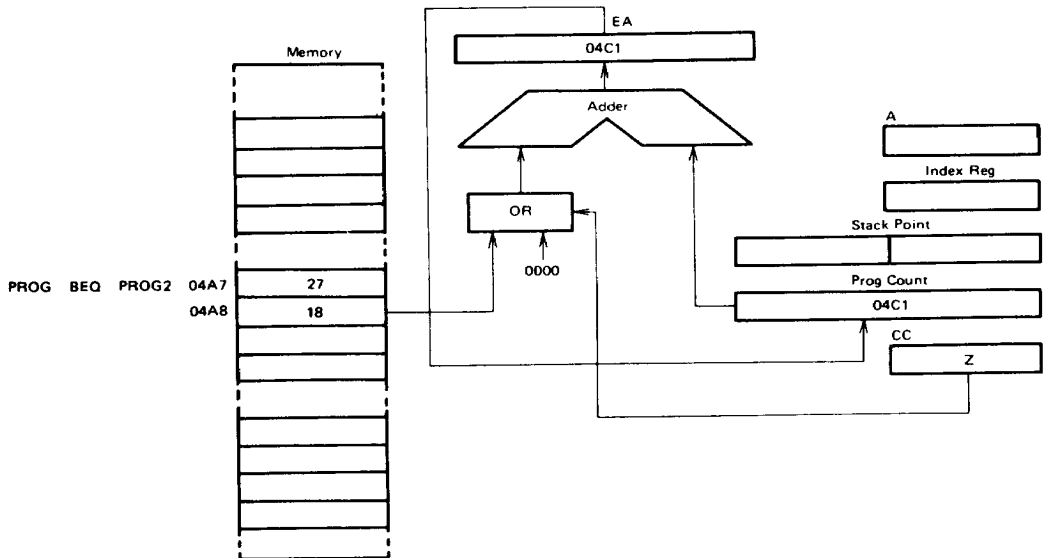

Figure 17 Relative Addressing Example
Refer to Figure 17. The relative addressing mode applies only to the branch instructions. In this mode the contents of the byte following the opcode is added to the program counter when the branch is taken.  $EA = (PC) + 2 + Rel$ . Rel is the contents of the location following the instruction opcode with bit 7 being the sign bit. If the branch is not taken  $Rel = 0$ , when a branch takes place, the program goes to somewhere within the range of +129 bytes to -127 of the present instruction. These instructions are two bytes long.